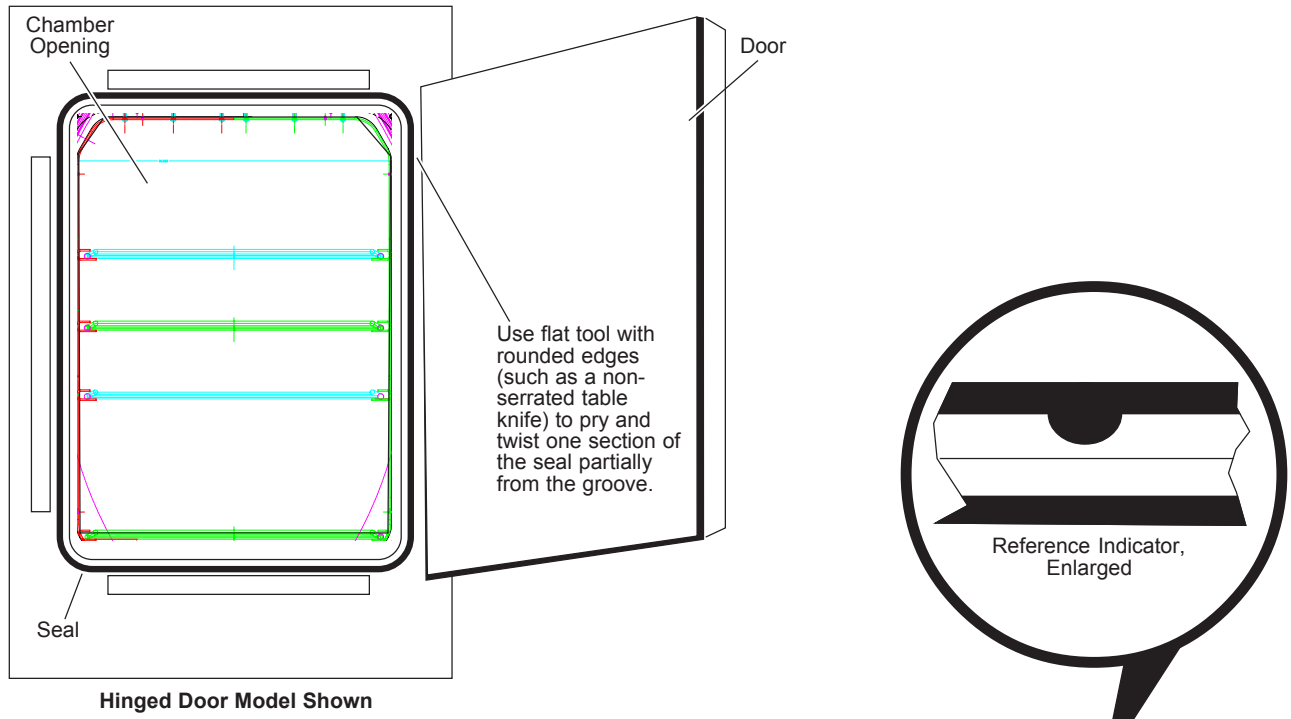

Figure 9-1. Remove Door Seal
3. Use flat tool with rounded edges (such as a non-serrated table knife) to pry and twist one section of the seal partially from the groove. Refer to Figure 9-1.